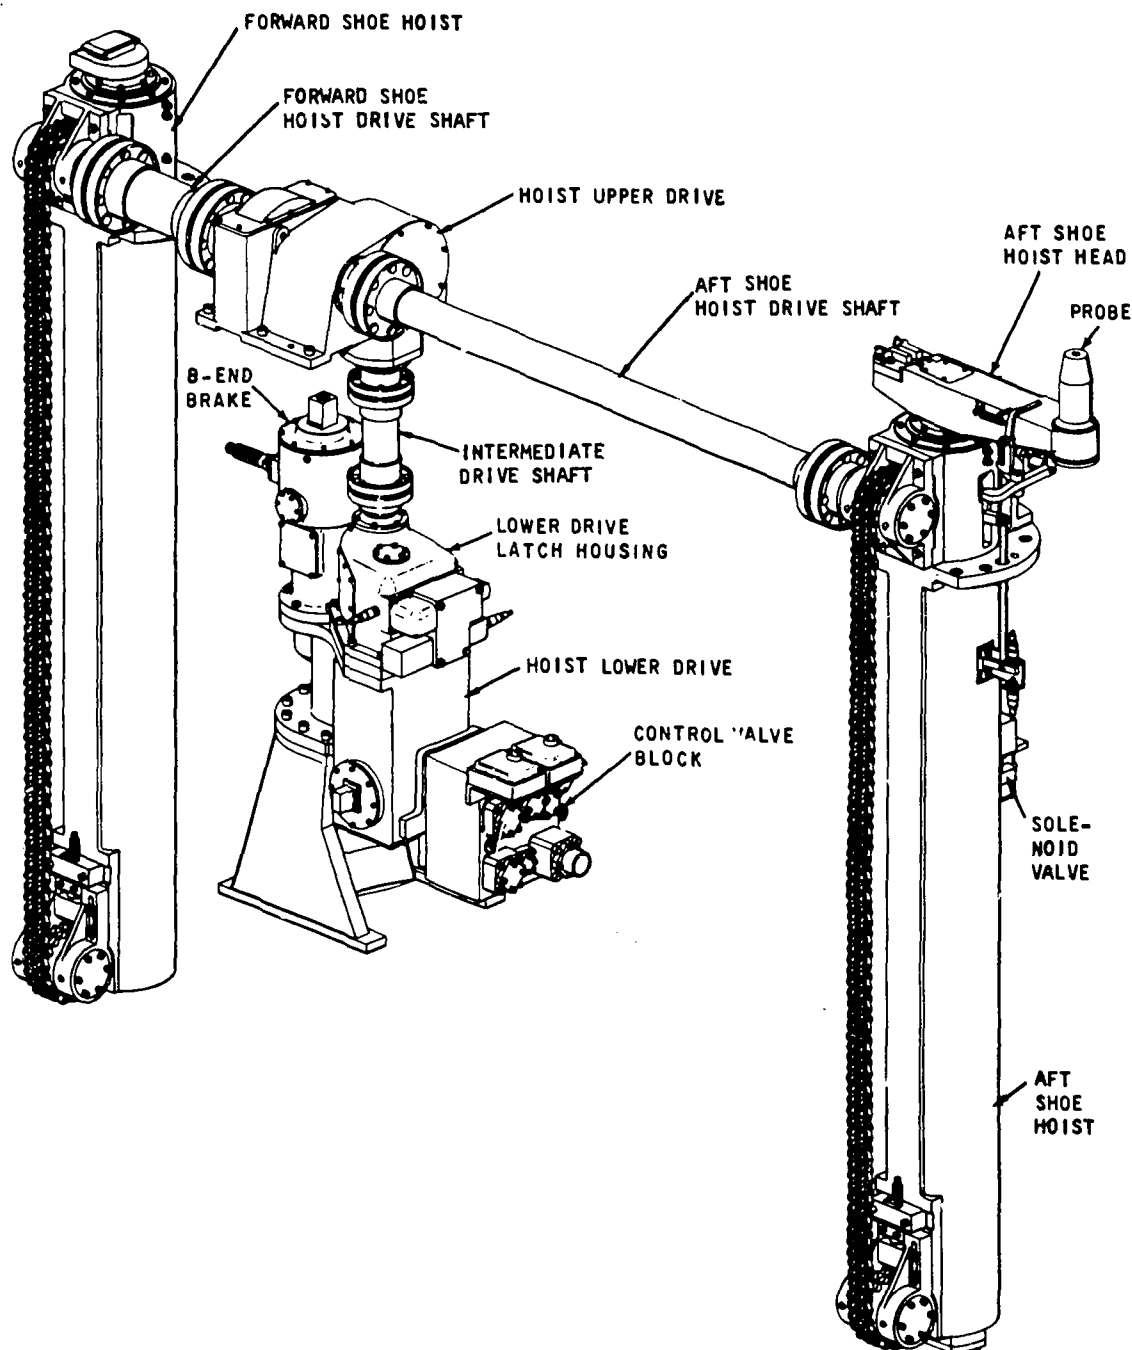

Figure 6-5.—Hoist mechanism for "A" side, Mk 10 Mod 7 launching system.
**HOIST MECHANISMS.**—The location of the hoist mechanisms was pointed out in figure 6-1. These, too, operate on hydraulic power from the magazine accumulator power system. The function of the hoist mechanism is to raise missiles from the ready service ring to the loader, or to return them during unloading. Figure 6-5 shows the mechanisms of the A-side hoist. The telescoping columns that raise or lower the missile are driven by chains and gearing. The hydraulic motor (B-end) drives the gearing. The upper drive is a gearbox driven by the intermediate drive shaft from the lower drive. The hoist heads contact the shoes (forward or aft) that support
The hydraulic control valve block is mounted on the wall of the lower transmission housing, and two detented solenoids are mounted on top of the valve block (fig. 6-5). It contains a metering valve to regulate the flow of oil, an orifice valve to control speed of the B-end by size of the orifice, a pressure-off valve to shunt pressure to the power-off brake, a selector valve to control direction of the B-end movement, a sequence selector valve to pull the appropriate latch in the hoist drive assembly, an interlock valve to prevent movement before all conditions are ready,